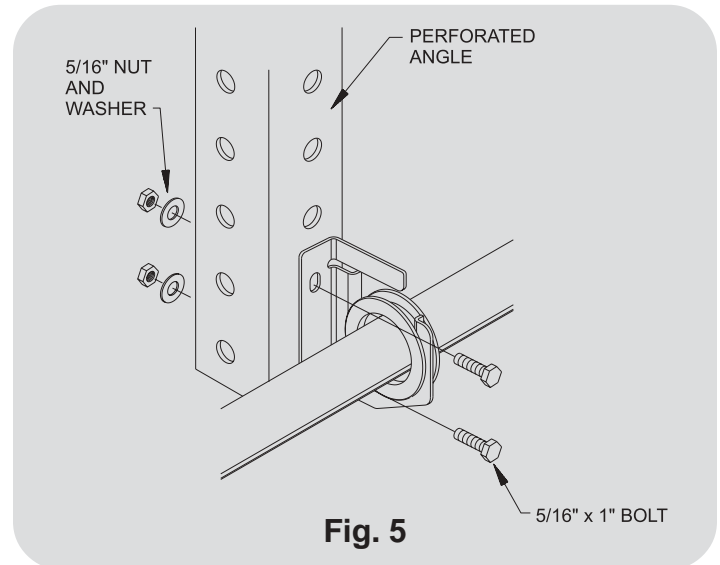

Fig. 5
For single car doors, locate the center of the TorqueMaster™ tube. For double car doors, (2 brackets required) divide tube length equally into three parts. Secure a perforated angle set to the ceiling, similar to the rear support, as near to this (these) location(s) as possible. Place the center bracket/bushing assembly in line with the perforated angle as shown in **Fig. 5**. Secure the support bracket(s) using (2) 5/16" x 1" bolts, washers, and nuts to the perforated angle(s).